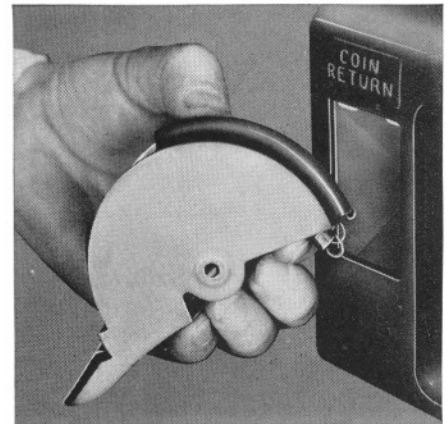

FIG. 2
6. Hold bucket as shown in Fig. 2. Support springs with finger so that springs extend slightly into chute opening.